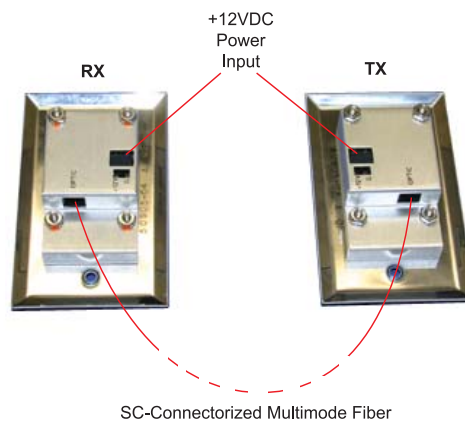
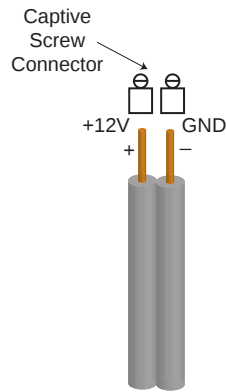

Figure 2-3
Figure 2-5
3. Connect the fiber from one unit to the other connecting the near end Mini-HDMI-WP-T unit's optical port to the far end of the Mini-HDMI-WP-R unit's optical RX port as illustrated in Figure 2-3.
The standard option to connect a power source is a +12VDC, which is used when power source is farther away (see Figure 2-3). In order to make sure that you have a proper installation, please observe the following:
2. Terminated fiber with SC optical connector to be directly plugged into the SC connector port of the Mini-HDMI-WP units (see Figure 2-3).
3. Before connecting power wire to the Mini-HDMI-WP unit, **make sure power supply is off**. Prepare the Positive (+12V) and Negative (GND) tip of the power wire as shown in Figure 2-5 to be directly plugged into the captive screw +12VDC connector of the Mini-HDMI-WP units (see Figure 2-3). Make sure the polarity of the connection is correct. Insulate any exposed wire shields to prevent short circuits.